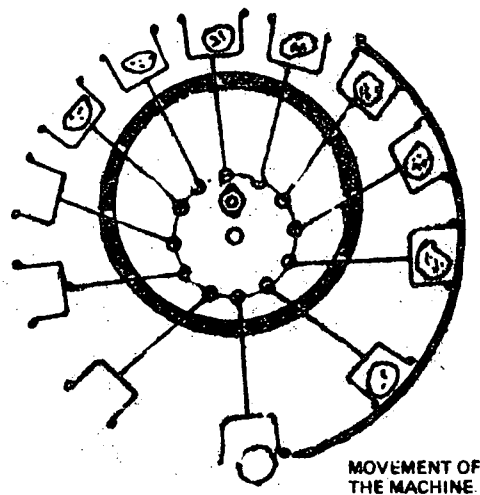

Fig. 3
*System with vertical dispenser wheel (Fig. 3).*